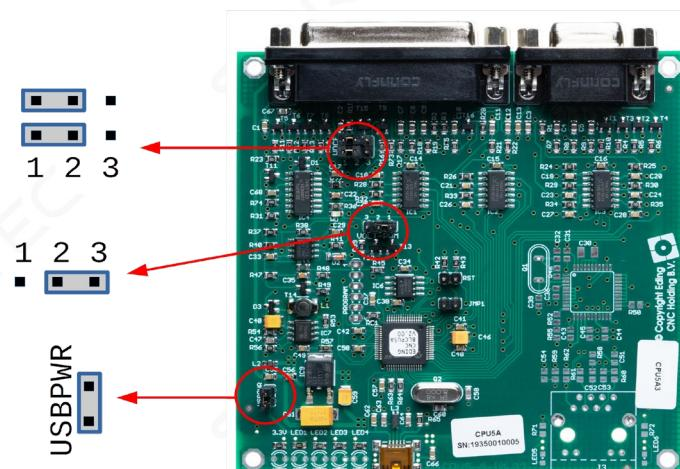

Fig. 8: Jumper setting Eding V5A
- The jumpers on the V5A board must be set as shown in Figure 8.